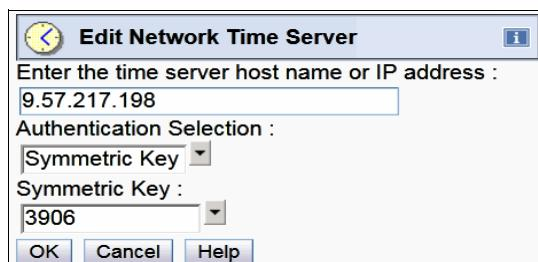

Figure 8-19 Adding NTP server with Authentication
10. On the **Edit Network Time Server** window (Figure 8-19), select the appropriate key number in the **Symmetric Key** field. In this example, we select key 3906. Click **OK** to continue.